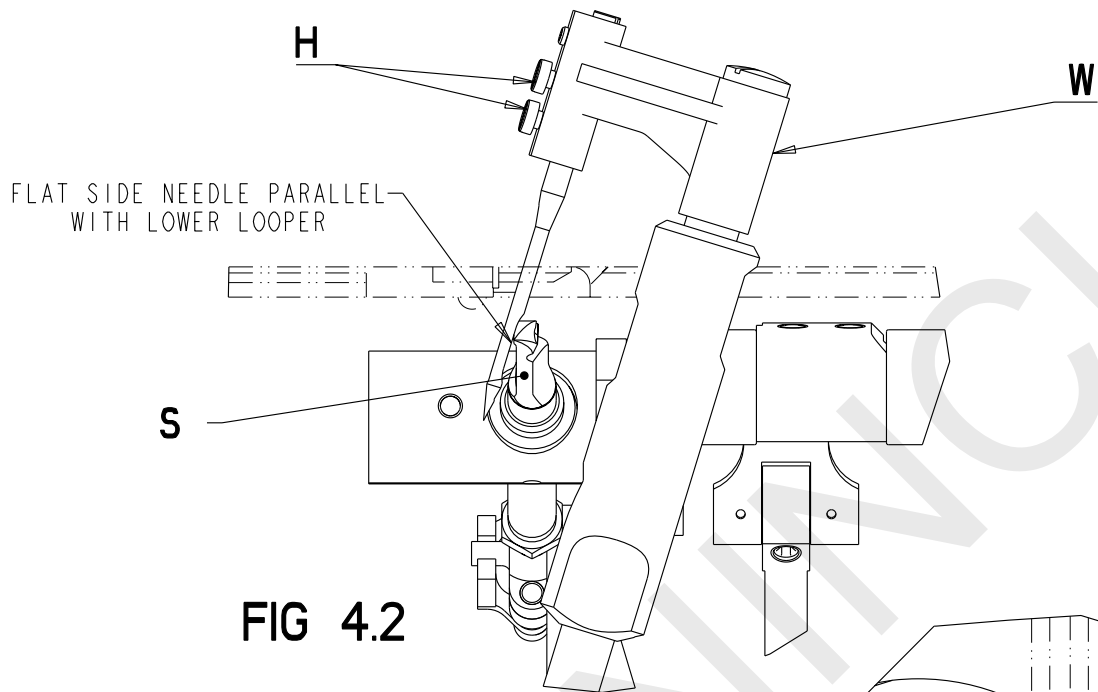
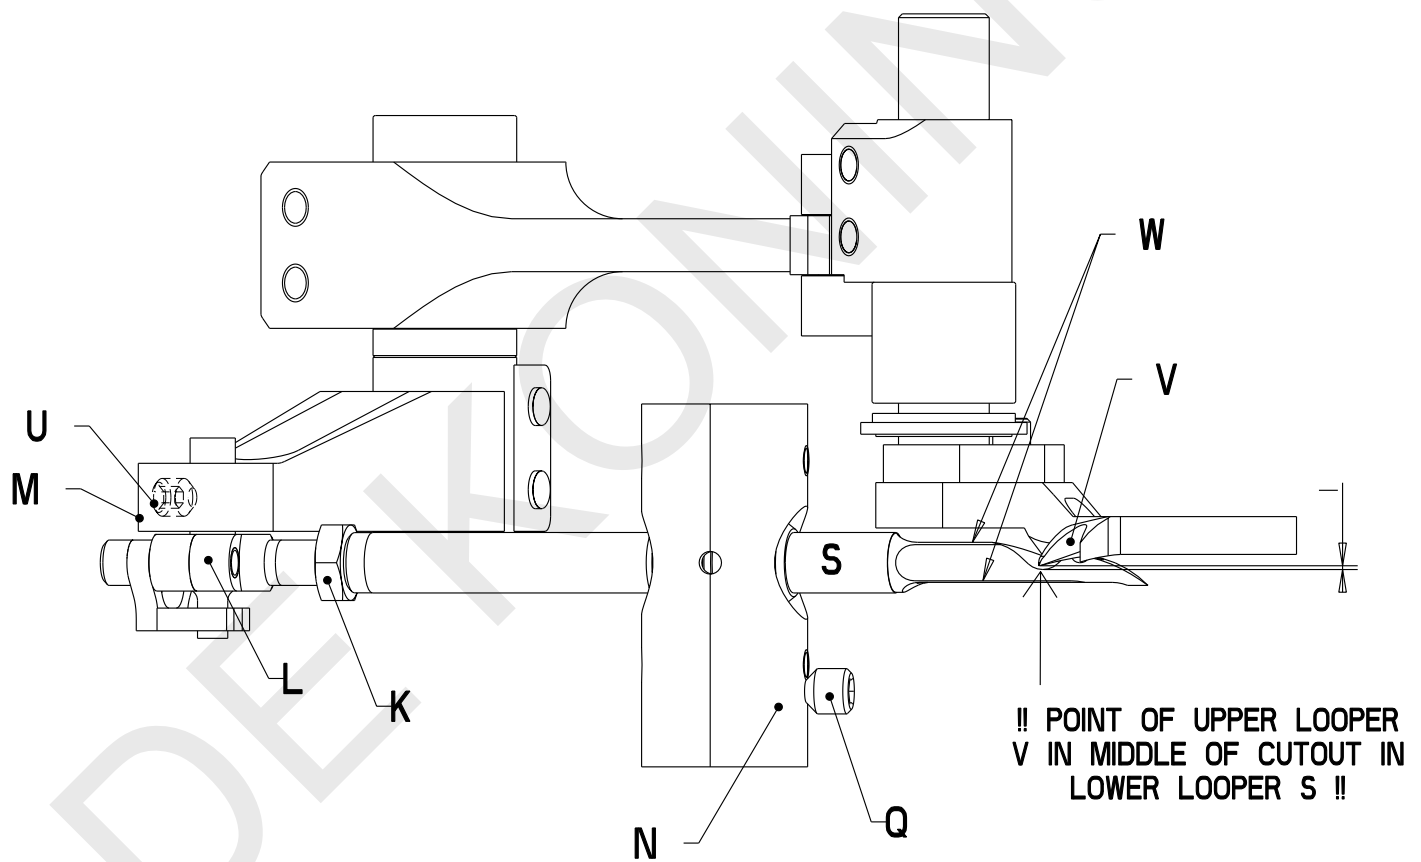

FIG 4.2
FIG 4.5
- Be sure the groove of the needle faces the front and that the flat side on the back of the needle is mounted parallel to the flat face of the lower looper **S** (FIG 4.2). To check this, turn the hand-wheel by hand and have the lower looper and the needle cross.
In the event of exact parallelism as shown in figure 4.2, retain the lower looper **S** in position using an open ended spanner n° 6, while screwing the block nut **K** (figure 4.5) through ½ a turn, using an open ended spanner n° 10.
On the upper looper upward stroke and with the lower looper moving to its forward dead point, as illustrated in figure 4.5, the outer end of the upper looper **V** must pass right in the centre of the recess of the lower looper **S**.